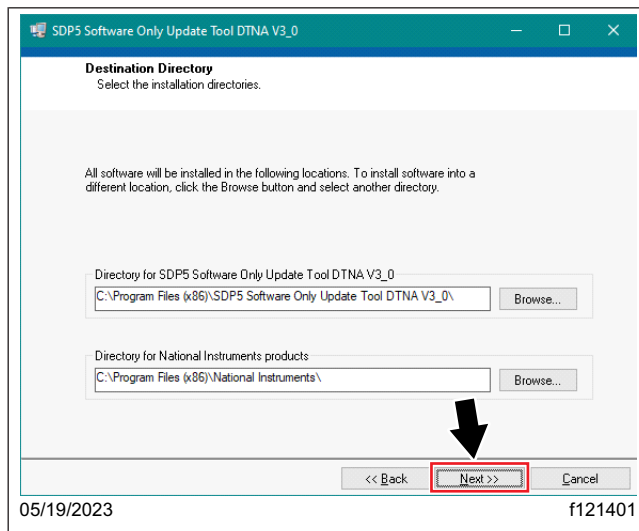

Fig. 8, Selecting Next
10. The software installation window pops-up. Select 'Next.' See Fig. 8.